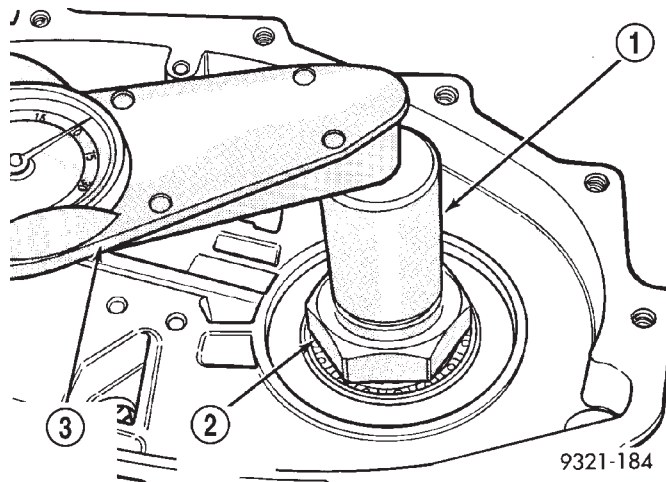

Fig. 421 Checking Turning Torque
(45) Check the turning torque of the transfer shaft using a torque wrench (Fig. 421). The turning torque